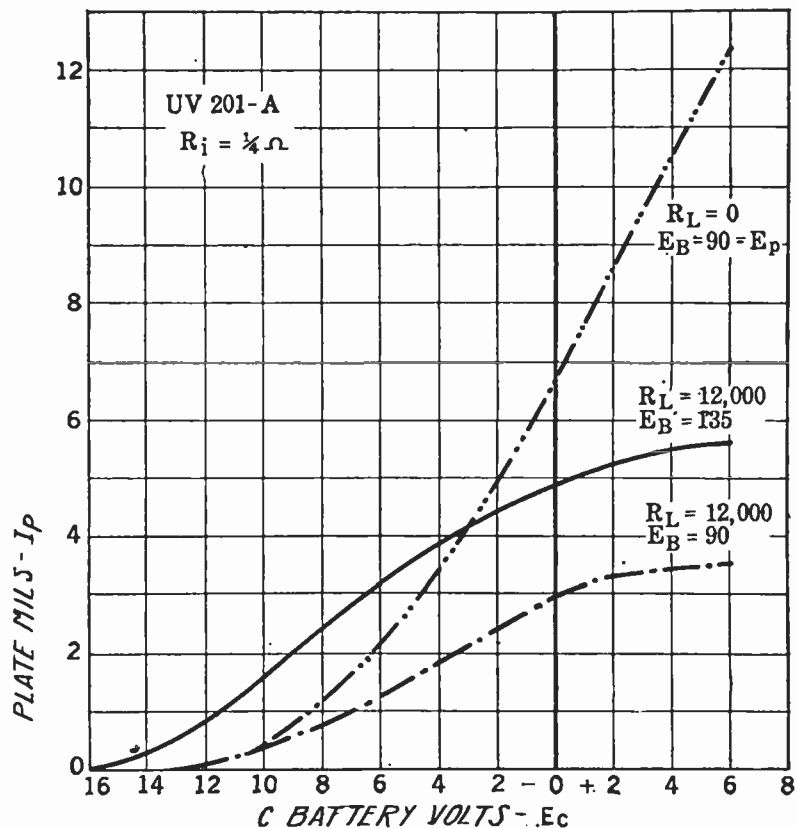

FIG. 2
- Plot the results similar to Fig. 2.
To obtain the curves shown in Fig. 2 it is necessary to add resistances in the input and output circuit of an amplifier tube. These resistances simulate the impedances of the preceding and following tubes together with accessory coupling apparatus
As soon as the grid goes positive, current flows in the grid circuit, depressing the input voltage, and the plate current curve flattens out or actually drops. Distortion is inevitable because the plate current no longer is an exact replica of the applied voltage. The tops of the waves are completely obliterated and the plate current jumps about when incoming signals force the grid positive. What comes from the loud speaker differs widely from what leaves the transmitting station. Curves which show this flattening are in Fig. 2 in which the load impedance is 12,000 ohms, and many excellent curves of this nature may be found in a recent article in *Popular Radio* by Hugh S. Knowles.